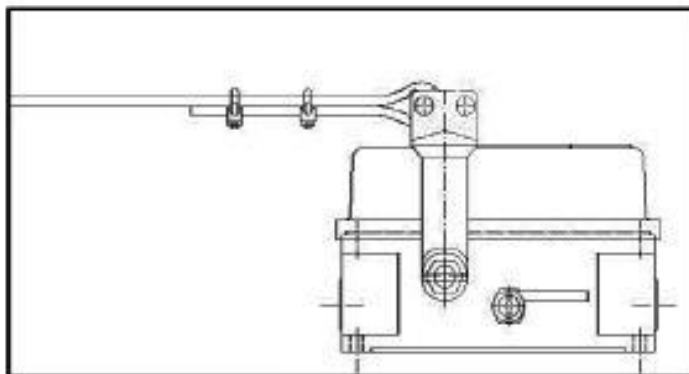

Fig. 4-3-2-6
- k) Ensure that the rope is properly tensioned and visible, and limit the elongation of the spring, as shown in figure 4-3-2-5, to a maximum length of 180 mm.